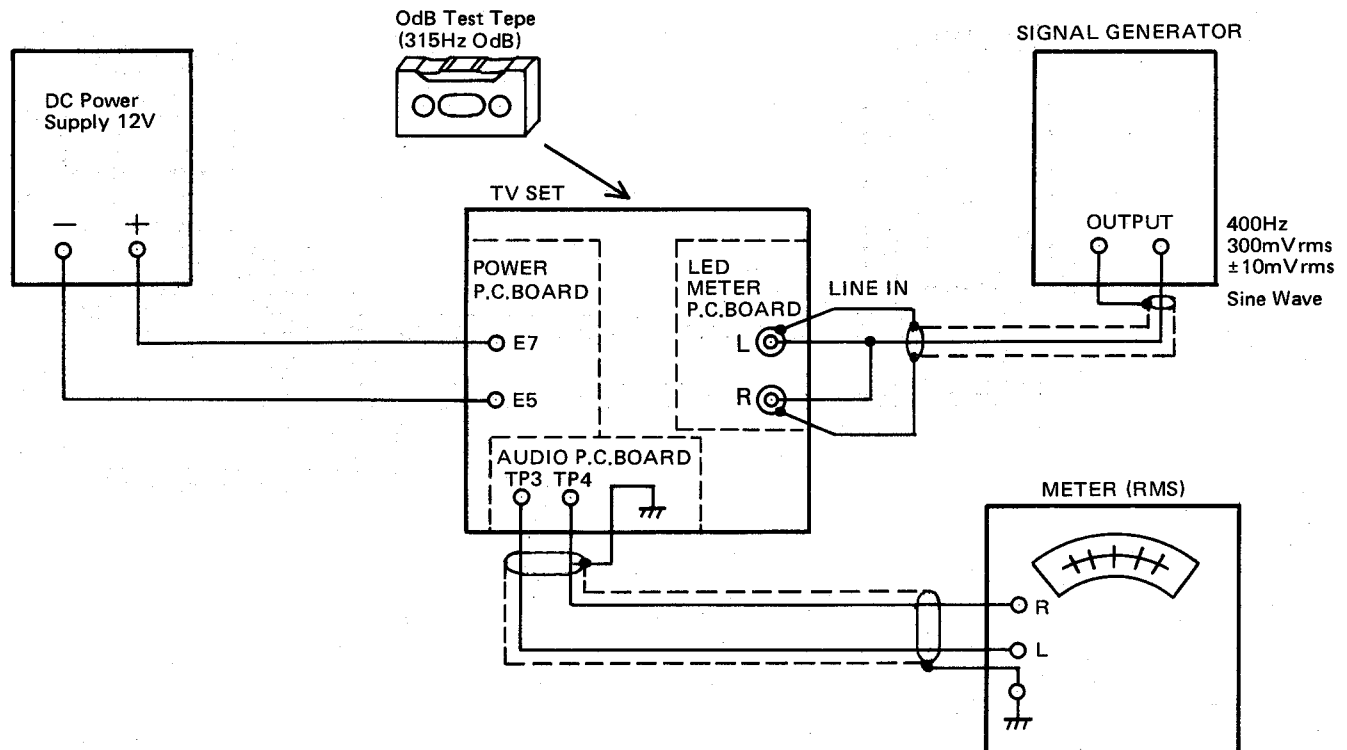

Fig. 36
1. Set up Signal Generator and DC power supply as shown in Fig. 36.